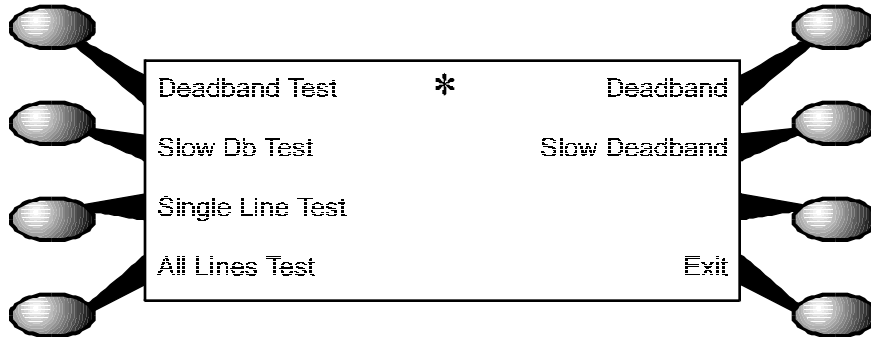

Figure 3-24. Calibration (Deadband) Menu.
4. The Calibration Menu is shown in Figure 3-24 and is where all the deadband tests are performed. Select “Deadband Test” to perform the fast deadband test.